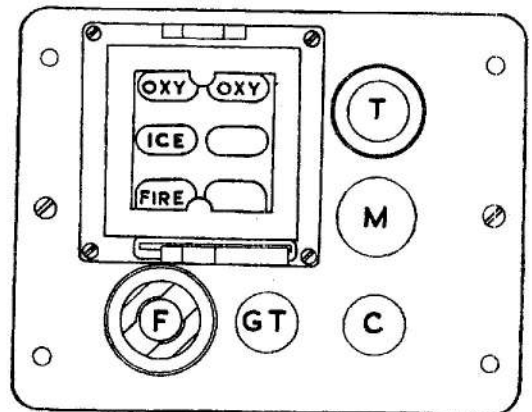

Fig 1. Indicator unit, Type C640
2. The unit groups on one indicator panel the appropriate emergency warning lamps for the aircraft, which are arranged as shown in fig. 1. Four screws secure the lamp panel to the light alloy case, on which are also mounted a 12-way test switch, Type C182/T; a cancel switch, Type C180/A1/C, a mute switch, Type C675/A2/M, a ground test switch, Type C180/F20/GT, and a fire-warn- ing push-switch, Type C180/A3/F.